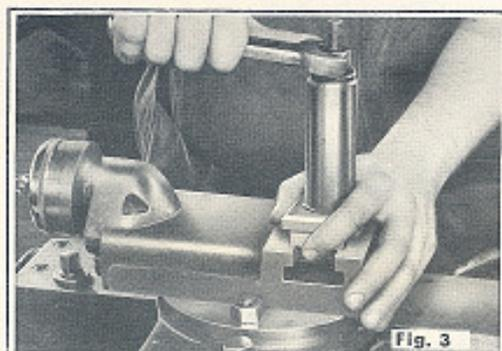

Fig. 3
**SETTING UP ON A LATHE** -- Before setting the grinder up on a lathe, mount the workpiece either in a chuck, collet or between centers. The Dumore Series 44 is designed to fit in the T-slot of a lathe compound. To set up, remove the mounting post from the grinder by loosening the lock nut on the right side of the frame and pulling the post free. Insert the T-bolt of the mounting post into the T-slot of the lathe compound and tighten nut at the top as illustrated in Fig. 3.